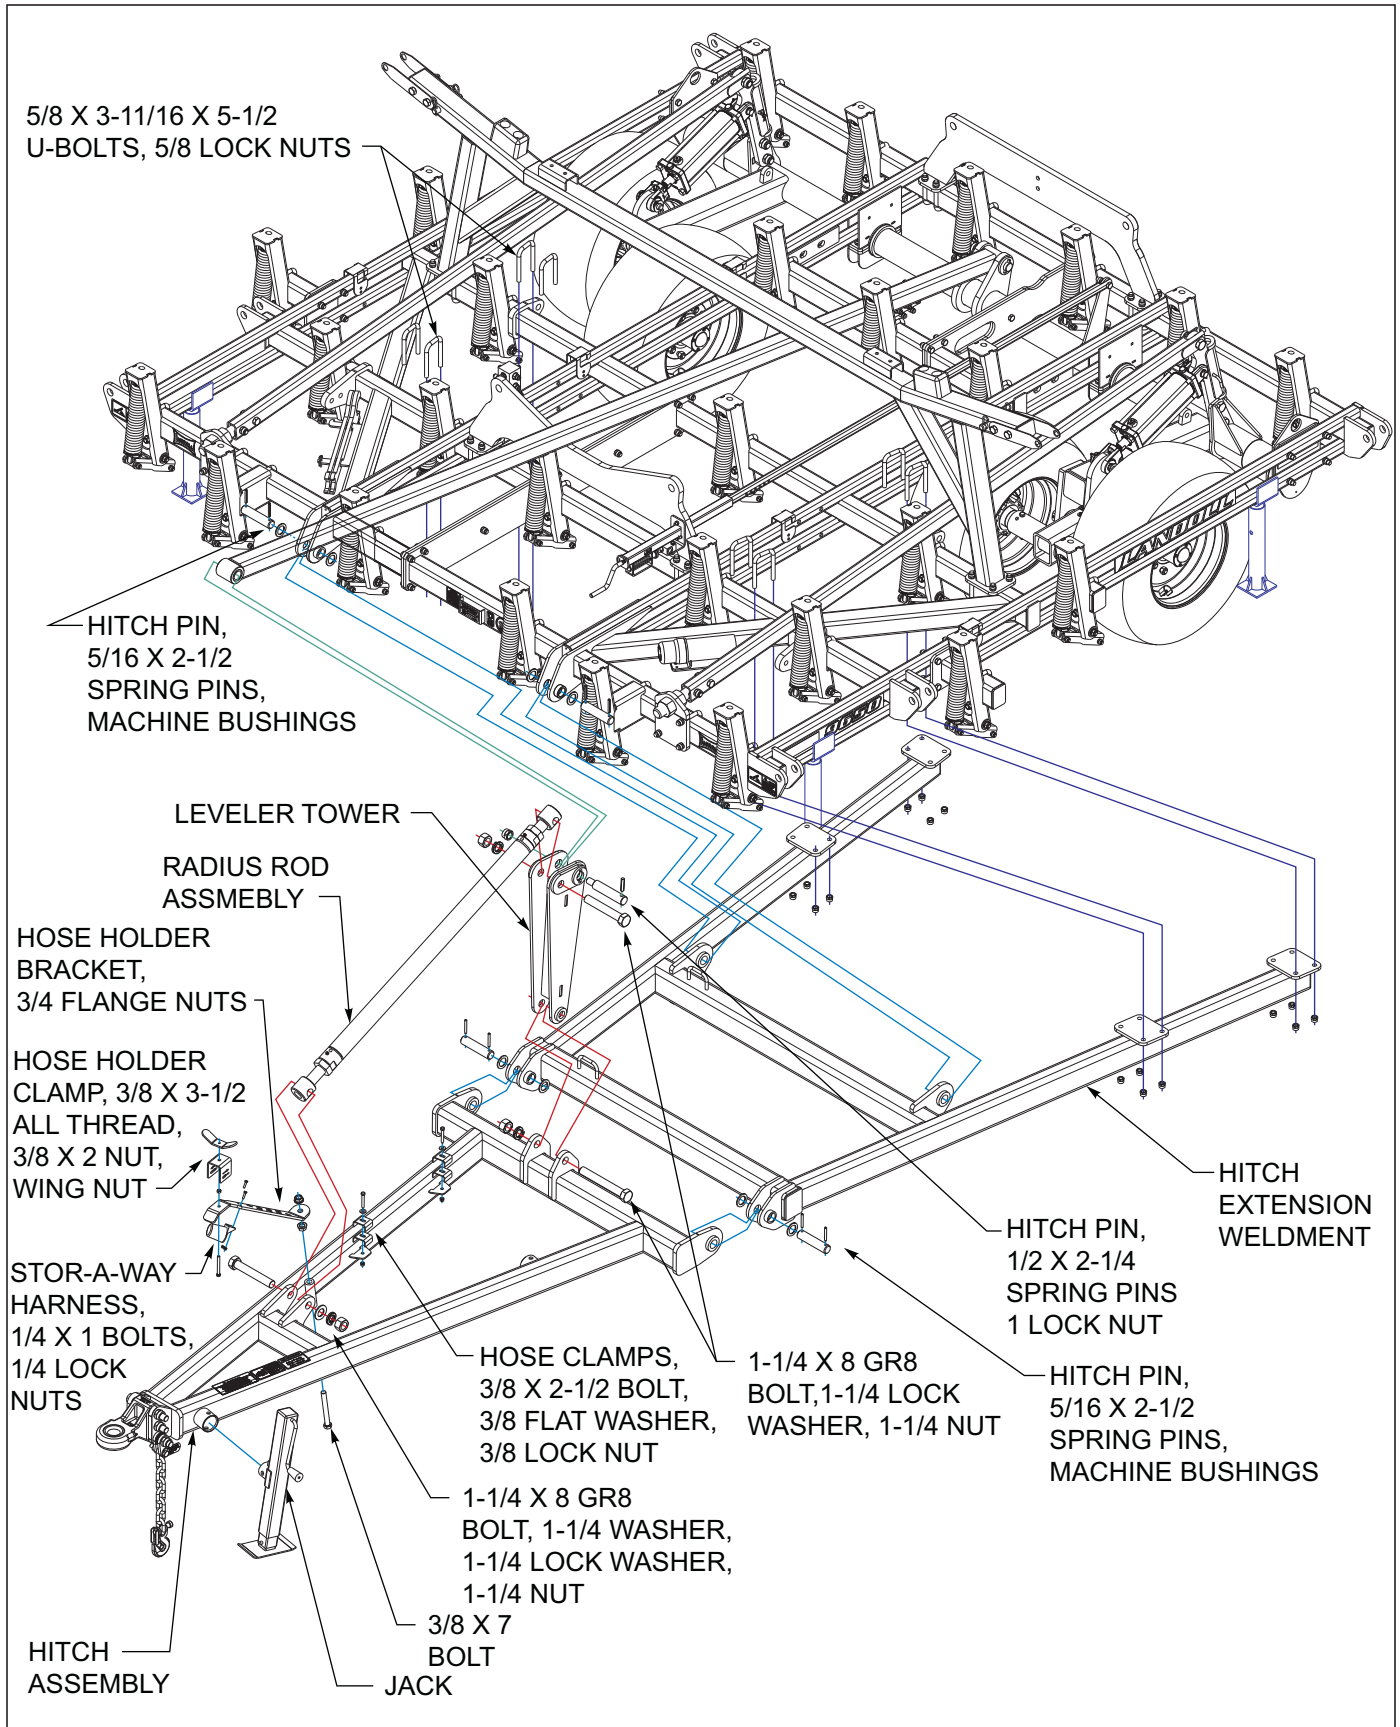

Figure 3-3: Hitch and Leveling Assembly
1. Slide hitch extension weldment under center frame and attach hitch extension to the center frame ears on the front of the center frame using hitch pins, machine bushings, and 5/16 x 2-1/2 spring pins **See Figure 3-3.**